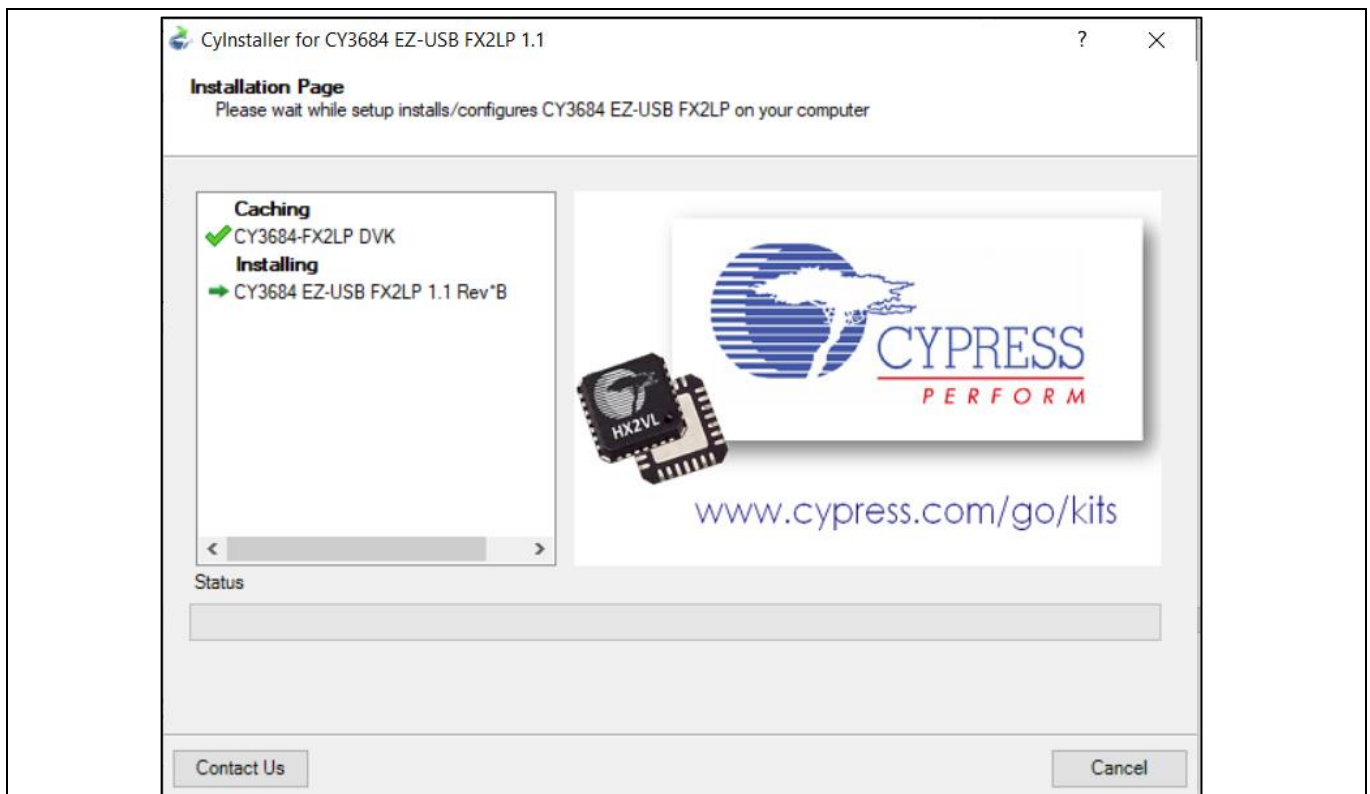

Figure 11 FX2LP SDK Setup Installation
13. The Installation Page will display as in **Figure 11**.